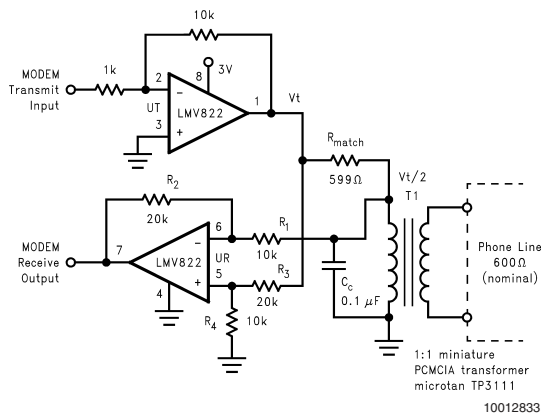

FIGURE 7. Telephone-line Transceiver for a PCMCIA Modem Card
The telephone-line transceiver of *Figure 7* provides a full-duplexed connection through a PCMCIA, miniature transformer. The differential configuration of receiver portion (UR), cancels reception from the transmitter portion (UT). Note that the input signals for the differential configuration of UR, are the transmit voltage (V_T) and $V_T/2$. This is because R_{match} is chosen to match the coupled telephone-line impedance; therefore dividing V_T by two (assuming $R1 \gg R_{match}$). The differential configuration of UR has its resistors chosen to cancel the V_T and $V_T/2$ inputs according to the following equation: